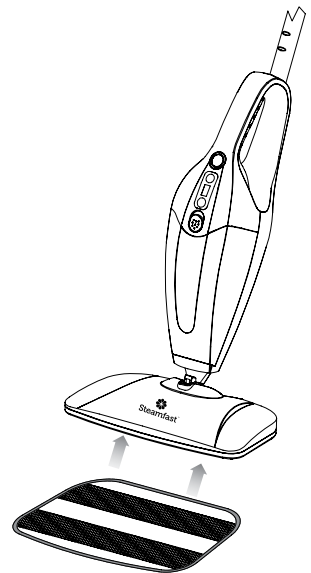

FIGURE 3
2. Align Mop Head above Microfiber Pad. Make sure Mop Head is oriented with Pad as shown, and centered as best as possible (Figure 3).